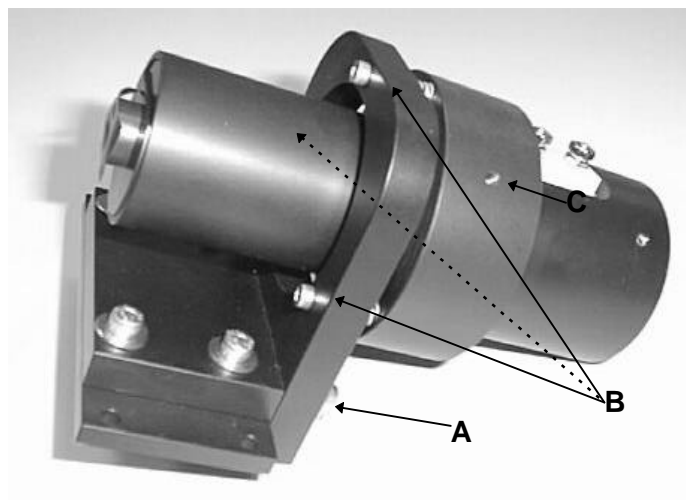
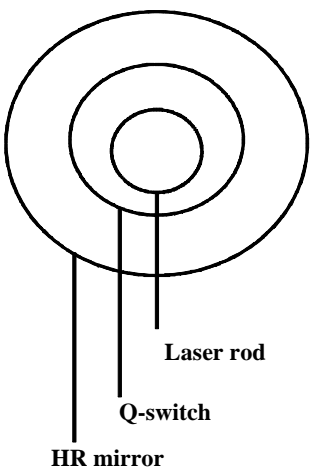

Fig. 41: Q-Switch unit
Fig. 43: Centering
In **Q-Switch Mode** no standing wave can be built up, the inversion in the rod is continuously increasing and the energy being stored. If the switch is opened then, a standing wave is building up and the total energy is being delivered all at once. High voltage ($U \approx 2\text{kV}$) is applied to the Pockels cell. Ruby radiation is emitted from the rod through the polarizer (Brewster Pack). The radiation transmits the Pockels cell. With voltage being applied, the Pockels cell rotates the laser radiation by 45° . After reflection by the HR mirror, the polarization is rotated again by 45° . Now the radiation is being reflected off by the polarizer. The trigger PCB detects the flashlamp pulse, and 2 ms later it will send a pulse to the HV driver. The high voltage will then be switched off for a few microseconds, the polarization is not rotated any more and the switch is open. The switching behaviour of the Pockels cell can be measured (Extinction, see next pages). If the switch lets through too much energy ($E \geq 200 \text{ mJ}$) although being closed, mostly the polarizer is not correctly positioned and must carefully be readjusted (3 screws, B \rightarrow Fig. 41).
When you look with the AKF to the aperture at the left hand side of the laser head (through the HR mirror) you will see many reflections including 6 blue / yellow ones produced by the Pockels cell unit (2x2 → 2 windows; 1x2 → Pockels cell). They form some type of circular figure. Besides, there are strong red reflections produced by the HR mirror and a weak one caused by the laser rod. In addition, many faint reflections produced by the Brewster pack are visible. Unhang HR-mirror cautiously in order to be able to unequivocally identify reflexes from the outcoupler mirror (red colored) and rubyrod (bright blue colored) with the help of an autocollimator (autocollimating telescope/ACT). Remove sticker label on left side of laser head and install autocollimator in this place. Close the laser head, if there is too much interfering light around the laser head. Move the ACT a few centimeters away from it's normal position until two of the significant points become smaller and darker. Use the three adjustment screws (**B**, see section "**Problems with Q-switch energy**") until the reflexes from Rubyrod and outcoupling mirror are positioned between this 2 points. Cover up pilot beam diode with a business card (or a similar aid) and switch off the CCT breaker. Look through opening (left-hand side) of the laser head and check for centricity of Rubyrod and Q-switch unit (see Fig. 43). Suspend HR-mirror in its former position. Look with ACT through laser head opening again and turn the two adjustment screws as necessary to align the second brightest reflex of the HR-mirror with the reflex from the outcoupler mirror (left-hand side of laser head). Close shutter and install dust shields.
Centration: When looking with the eye through the HR mirror in the resonator, the Q-switch should not clip the beam (see Fig. 43). At the bottom of the Q-switch holder there are 2 screws (see **A** in Fig. 41) which are used to re-adjust the position of the Q-switch unit.
3. Check the marks on ruby rod and Q-Switch unit; if incorrect, turn ruby rod or Q-Switch unit (loosen screw **C** in Fig. 41). If the unit is unmarked use a air level to align the unit horizontal.
4. Look through HR mirror and check centration as per Fig. 43.
5. If centration is not correct, loosen the 2 screws (see **A** in Fig. 41) at the bottom of the Q-Switch holder and move the Q-Switch until centration is correct.
| 2. | <p>Extinction test of Q-switch</p> <ul style="list-style-type: none"> - Remove BNC cable at the trigger PCB on the left side of the laser head (thus permanently applying HV to the Q-Switch, switch is closed) (IMPORTANT !!!) - On Laptop, switch to Q-Switch mode („Q“). - Set control value for 3J and 2J (see 1.), release a shot and note down the energy. - The control variable for 2J should yield an energy of $E \leq 200 \text{ mJ}$. - Re-connect the BNC cable!!! - If the energy is $E \geq 200 \text{ mJ}$ with the 2J control variable, carefully change the tilt angle of the Q-Switch (3 screws, see B in Fig. 41); do the active alignment (see p. 81) of output energy at the 2 screws of the HR mirror in EPIL Mode. <p>Then, don't forget to check the near- and far-field!!!. Repeat the extinction test (2.).</p> | Value table |